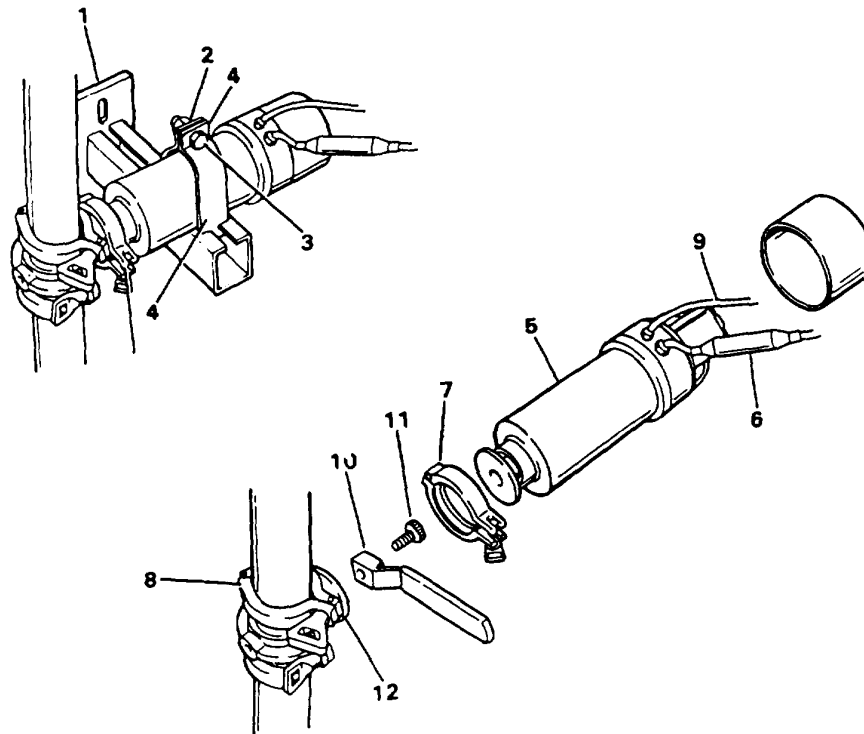

Figure 2-74. Setting of Automatic Valves for Manual Operation
- (2) Set automatic valve for manual operation (Figure 2-74).
- (d) If the valve actuator is supported by a bracket, merely slide the actuator away from the valve. If the valve actuator is not supported by a bracket, set the actuator to the side, being careful not to kink the air hose (9) or supporting the weight of the actuator by the air hose.
- (e) Place a blue manual handle (10) from storage box no. 3 (45, Figure 2-24) on the valve stem. Secure with thumbscrew (11, Figure 2-74) packaged with valve handle. Using manual handle, turn valve to correct position.
- (3) When manual operation is no longer required, replace the actuator.
- (a) Actuator electrical connector (6) must be unplugged.
- (c) Using manual handle (10), open valve (8).
- (d) Place actuator (5) over valve stem (12) and align so that valve actuating pin lines up with hole in the actuator. Use actuator body to slightly turn valve stem as needed for alignment.
- (e) Replace clamp (7), tighten.